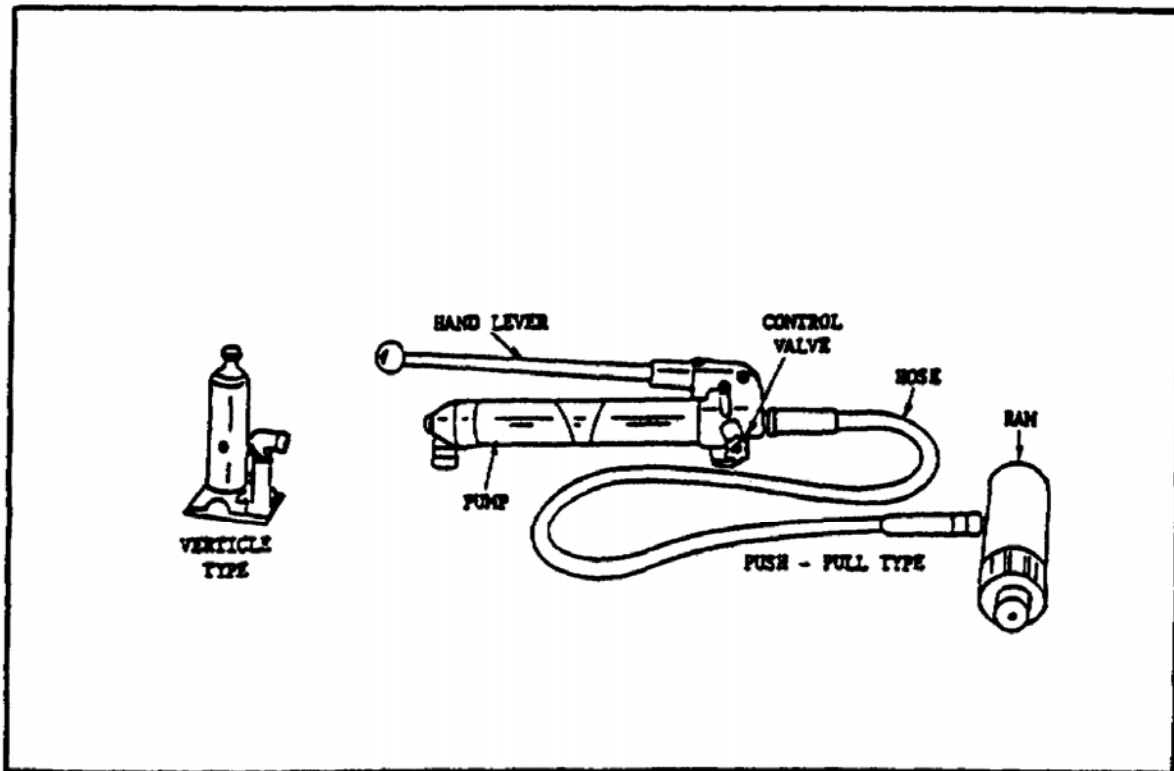
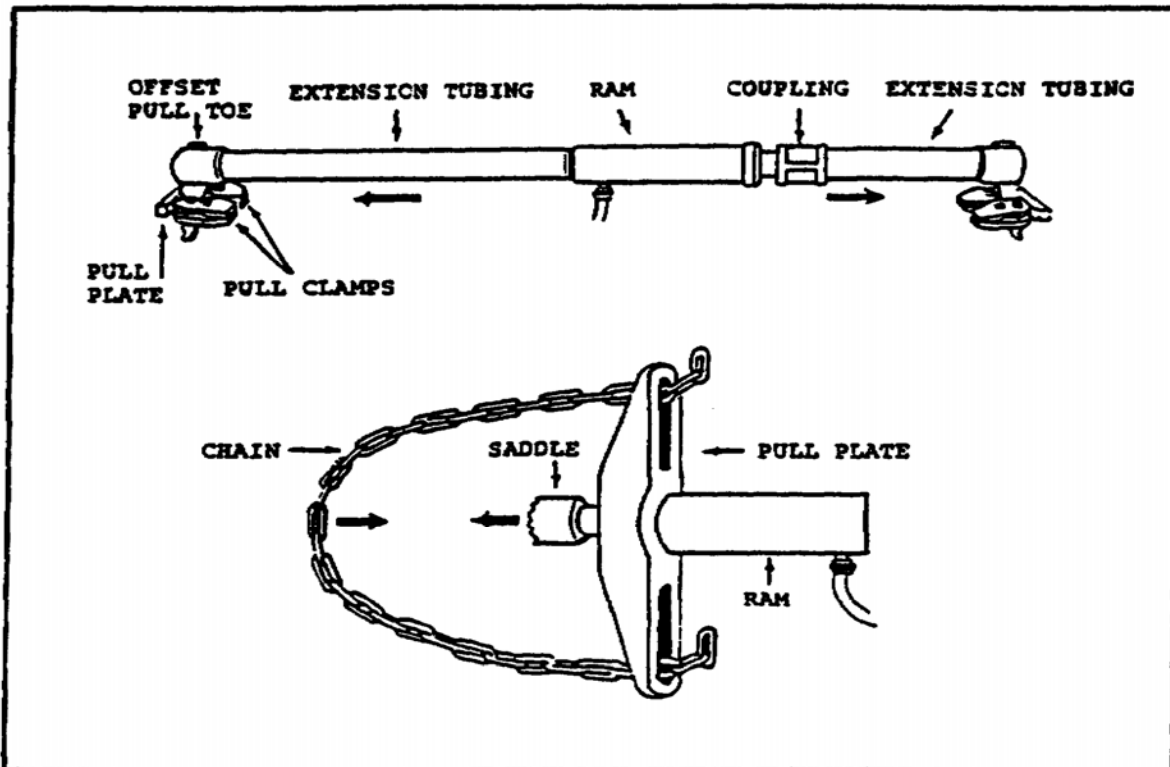

FIGURE 49. HYDRAULIC JACKS.
FIGURE 50. JACK PULLING COMBINATIONS.
(3) *Vertical Hydraulic Jacks.* A hydraulic jack (figure 49) operates through pressure applied to one side of a hydraulic cylinder which moves the jack head. These jacks are automatically lowered or released by releasing the pressure. Vertical hydraulic jacks are issued in a variety of types, in capacities from 3 to 100 tons, having different extended heights.
(4) *Push-Pull Hydraulic Jacks.* A push-pull hydraulic jack (figure 49) consists of a pump and ram connected by a hydraulic or oil hose. These jacks are rated at 3, 7, 20, 30, and 100 ton capacities and have diversified applications.
(3) *Push-Pull Hydraulic Jacks*. The push-pull hydraulic jacks are furnished with an assortment of attachments enabling performance of a variety of pushing, pulling, lifting, pressing, bending, spreading, and clamping operations. The pump is hand operated. Turn the control valve (figure 49) on the side of the pump clockwise, stroke the hand lever up and down and the ram will extend. The 6 foot flexible hydraulic or oil hose allows the ram to operate in any desired position and from a safe distance. The ram retracts automatically by turning the control valve counterclockwise. The attachments can be threaded to the end of the plunger, to the ram body, or into the ram base. Figures 50 through 53 illustrate some standard combinations of the push-pull hydraulic jack attachments for various operations, including a specially designed spread ram.